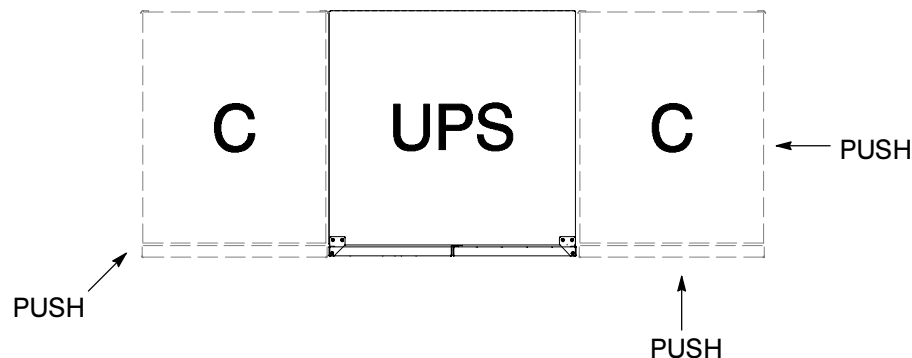

Figure 8. Pushing Cabinets Together
4. Push the optional cabinet toward the UPS cabinet until both cabinets are aligned at the rear. Figure 8 shows two optional cabinets pushed into place and aligned with the rear of the UPS cabinet.